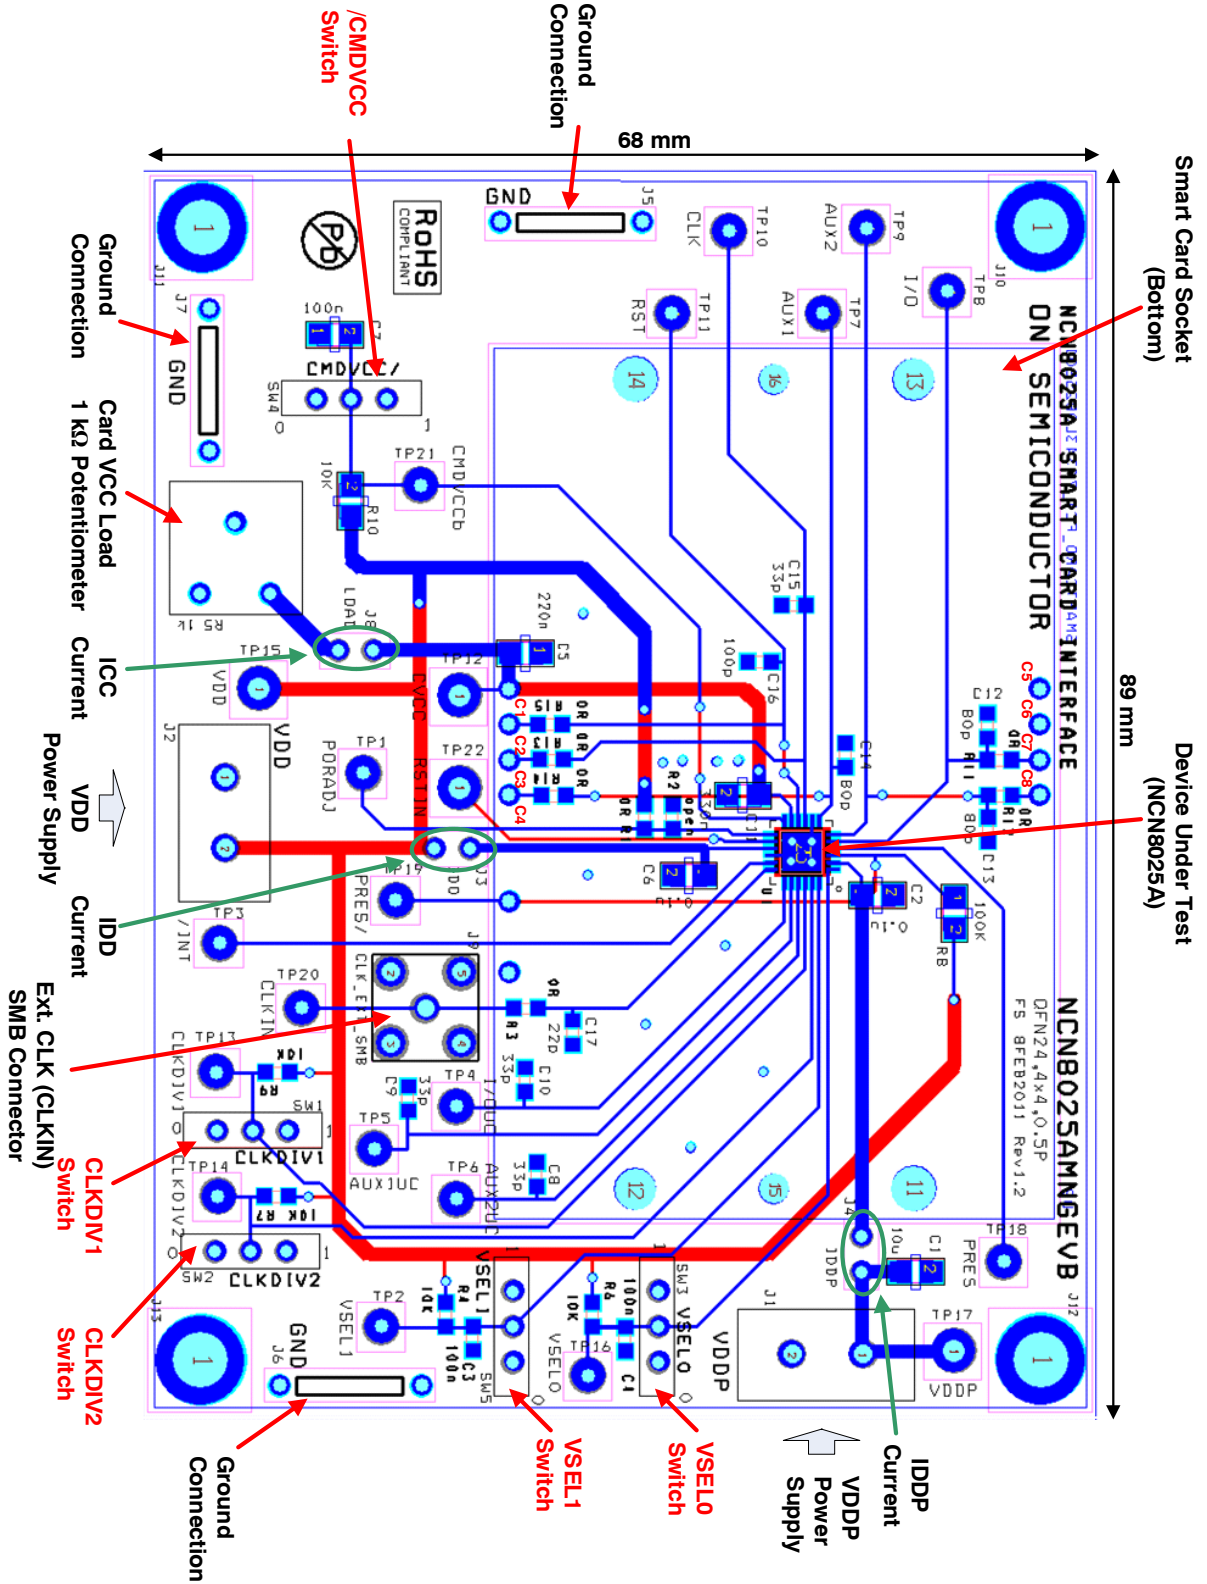

Figure 2. Board Description
See Figure 2.
- 2 pins are used to change the Card V_{CC} power supply or the smart card interface mode which can be 1.8 V, 3.0 V or 5.0 V. These 2 pins are VSEL0 and VSEL1 and on the board, changing VSEL0 and VSEL1 is done using 2 corresponding switches (see Figure 2) according to the below Table 1. When VSEL0 = 0 then VSEL1 is in the mode 5 V/3 Vbar, when VSEL0=1 then VSEL1 is in the mode 1.8 V / 3 Vbar. The initial setup can be VSEL0 = 0 and VSEL1 = 1 for selecting the 5 V mode. The card V_{CC} (CVCC) output voltage cannot be changed on the fly when the smart card interface is active (/CMDVCC = Low). For changing card V_{CC} it is necessary to deactivate the device then to reconfigure the card V_{CC} by setting the appropriate VSEL0 and VSEL1 finally the smart can be activated again with this new smart card power supply voltage.